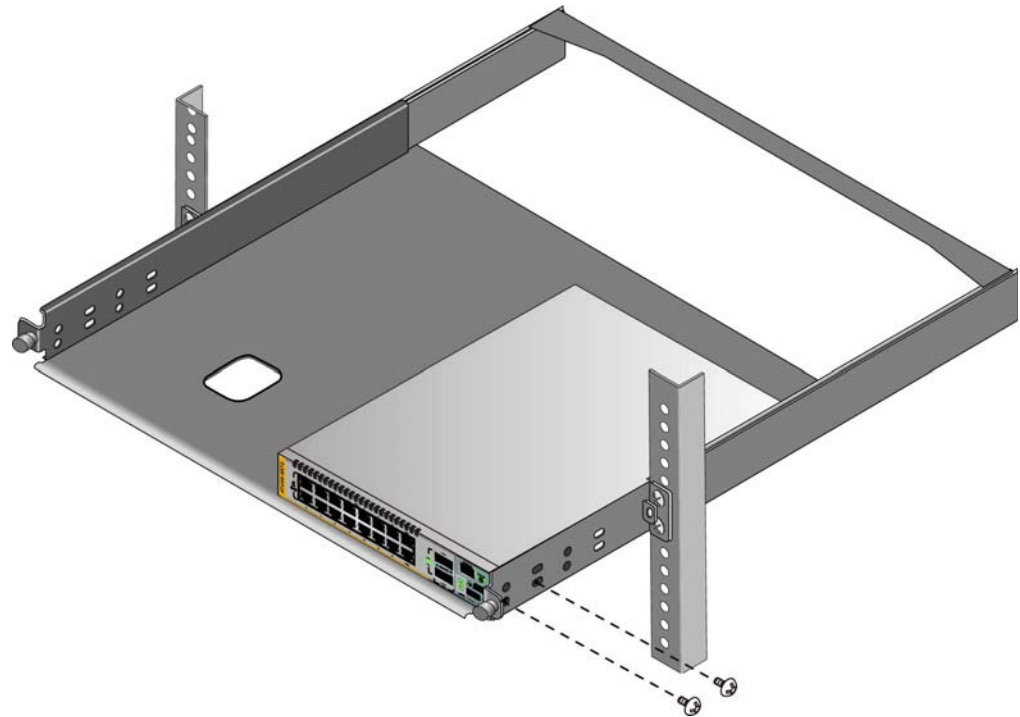

Figure 29. Securing the Switch to the AT-RKMT-J15 Bracket
8. Install two M4x6mm screws included with the switch to secure the switch to the bracket. Refer to Figure 29.